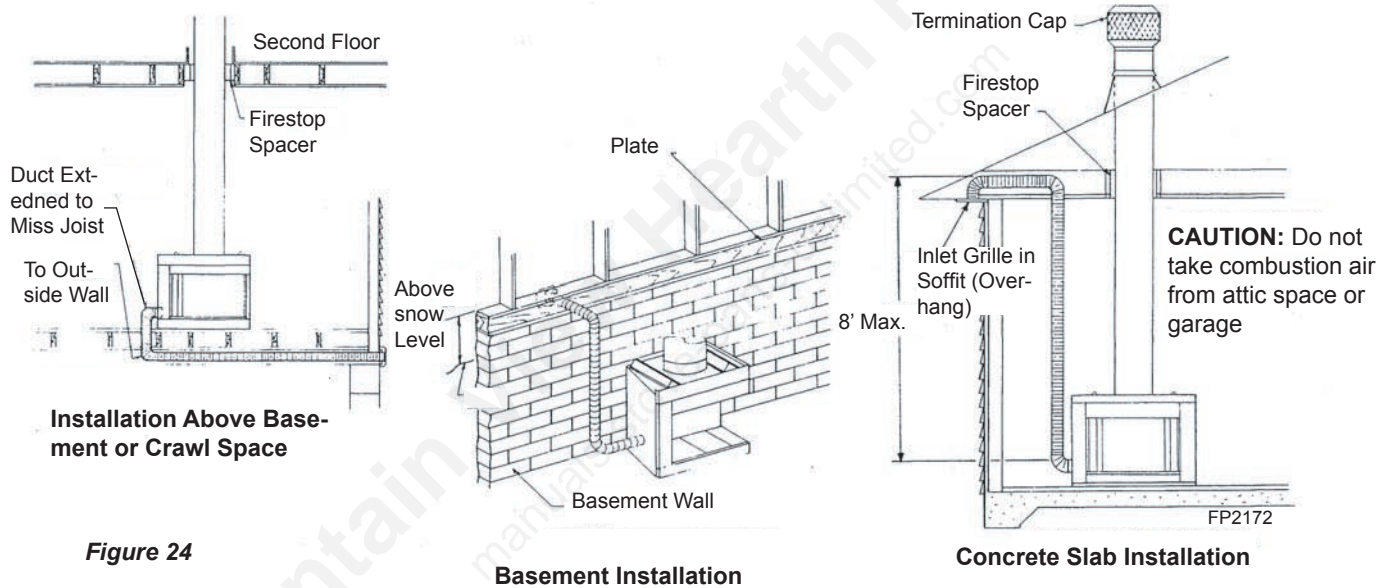

Figure 24
1. Extremely long runs and numerous turns in the duct leading from the fireplace to the combustion air assembly should be avoided. These conditions will increase the resistance to the free flow of air through the duct. Refer to *Figure 24* for methods of installing the outside air for combustion assemblies.
2. Fasten the 4" starting collar over the hole on the left or right side of the fireplace with the four (4) sheet metal screws provided. *Figure 24*